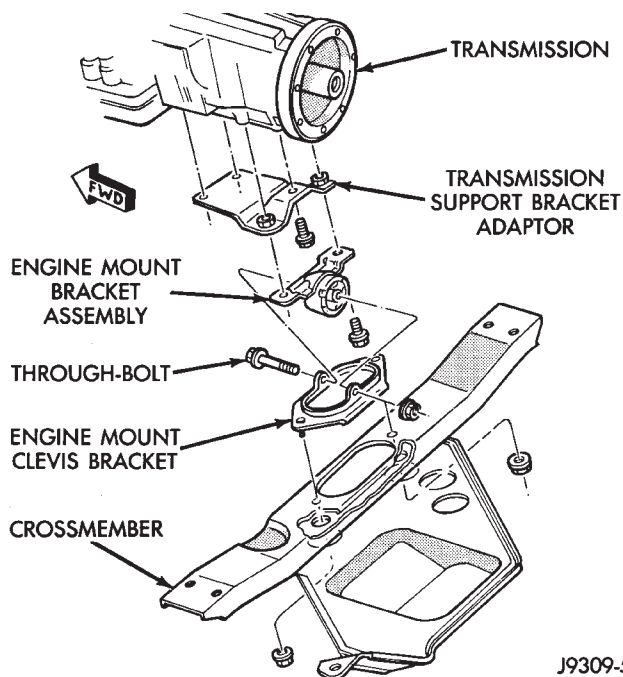

Fig. 6 Engine Rear Support Assembly
- (1) Disconnect the negative cable from the battery.
- (2) Raise the vehicle on a hoist.
- (3) Support the transmission with a jack.
- (4) Remove engine mount bracket through-bolt (Fig. 6).
- (5) Raise the transmission and engine **SLIGHTLY**.
- (6) Remove stud nuts attaching engine mount clevis bracket to crossmember (Fig. 6). Remove bracket.
(1) If the transmission support bracket adaptor was removed, position the adaptor to the transmission (Fig. 6). Tighten the bolts to 95 N•m (70 ft. lbs.) torque.
(2) Install the engine mount clevis bracket onto crossmember. Tighten the stud nuts to 41 N•m (30 ft. lbs) torque.
(3) Install the engine mount bracket assembly to the adaptor. Install the 3 bolts and tighten to 75 N•m (55 ft. lbs.) torque.
(4) Lower the transmission and engine while aligning the engine mount bracket assembly to the engine mount clevis bracket.
(5) Install through-bolt and tighten the nut to 65 N•m (48 ft. lbs.) torque.
(6) Remove transmission jack.
(7) Lower the vehicle.
(8) Connect the negative cable to the battery.